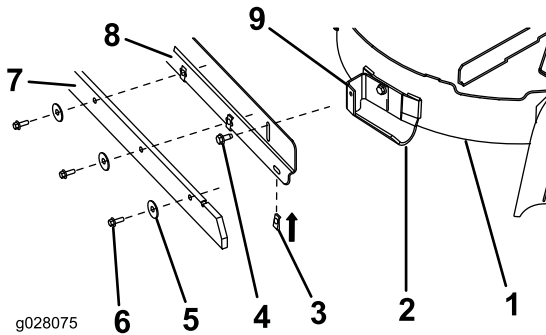

Figure 2
1. Align the clip nut so that the flat leg of the clip nut faces away from the mower deck (Figure 2).
2. Position the wiper on the wiper flange of the striping bracket (Figure 2).
3. Secure the wiper to the bracket using the 4 hex-head screws (5/16 x 3/4 inch) and 4 washers as shown in Figure 2.